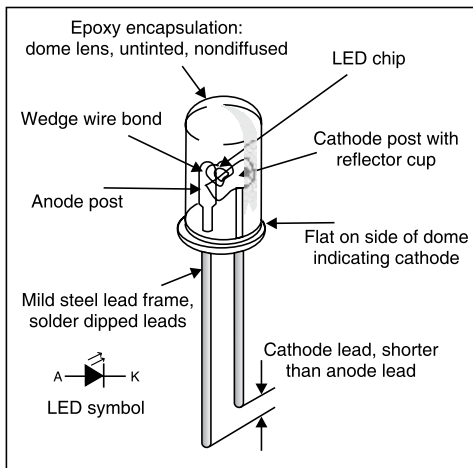

Fig. 54: Parts of an LED
5. Light emitting diode (LED): Fig. 54 shows the anatomy of an AlGaInP [aluminium (Al), gallium (Ga), indium (In) and phosphide (P)] LED.